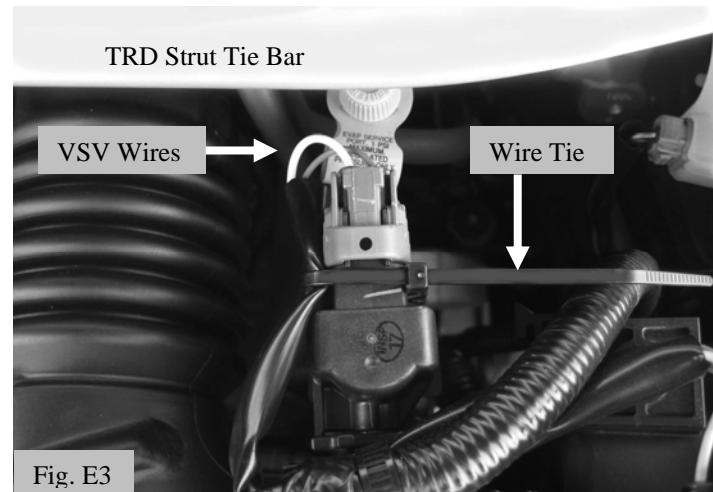

Fig. E3
- !** 4. Use the 6-inch wire tie to secure the Vacuum Switched Valve (VSV) connector wires to the VSV. Position wires as shown. (Figs. E3 & E4)